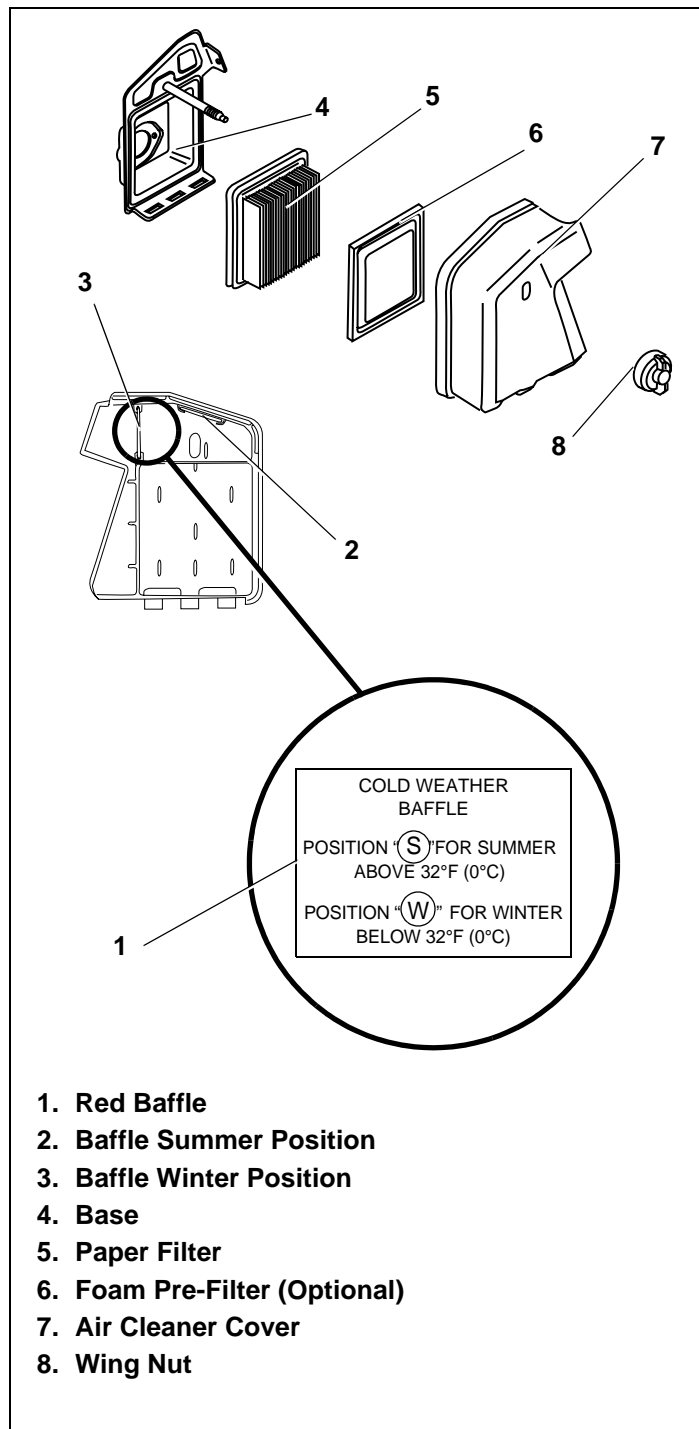

Figure 44. Type “D” Climate Guard Air Cleaner Assembly
1. Remove wing nut and cover. See Figure 44.
1. Remove wing nut from air cleaner cover. See Figure 44.